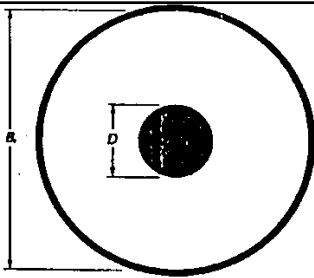

Figure E-8 Cross section of coaxial cable
(8) Coaxial cable (Figure E-8) has shape factor